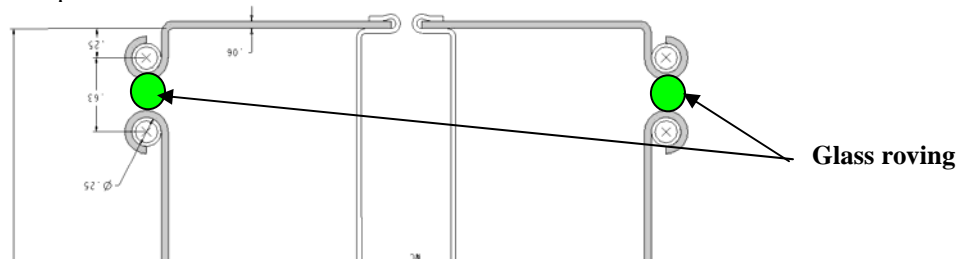

Figure 50- Glass Roving Between Cooling Tubes
- 6.49.5 Install glass roving (rope) in the areas between the cooling tubes. [Figure 50- Glass Roving Between Cooling Tubes]